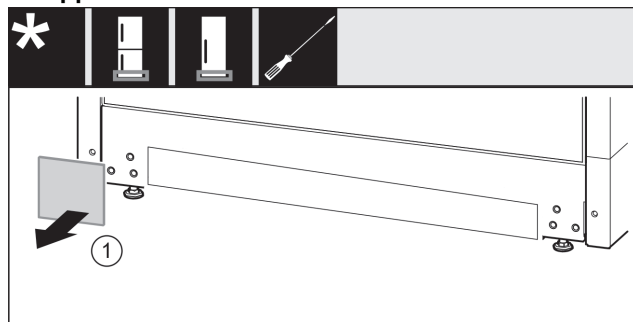

Fig. 35
- ▶ Remove the cover Fig. 35 (1).